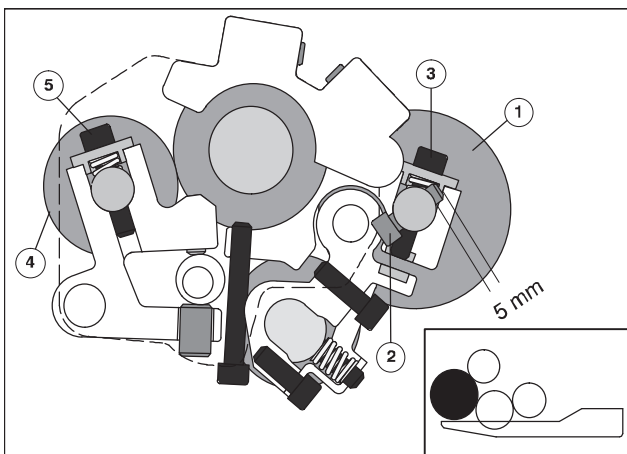

Fig. 44 Inserting the dampening form roller
The dampening form roller (Fig. 44/1) and the metering roller (Fig. 44/4) are screwed in the bearing shell with an Allen screw, to which a cap and a spring are attached. The spring must be inserted in the depression in the shaft with each roller shaft.
1. Turn the dampening system so that the bearing shells of the dampening form roller are directed upwards. The heads of the adjusting screws (Fig. 44/2) in the bearing shaft must point towards the dampening distributor.
Only if replacing the dampening form roller: make sure that the blue adjusting screws (Fig. 44/2) on D.S. and O.S. project 5 mm from the shaft. If necessary, set the distance to 5 mm by turning the adjusting screw with the operator tool.
3. Insert the Allen screw (Fig. 44/3) with cap and attached spring through the shaft of the damp-
2. Insert the Allen screw (Fig. 44/5) with cap and attached spring through the shaft of the metering roller and screw the roller in the bearing.